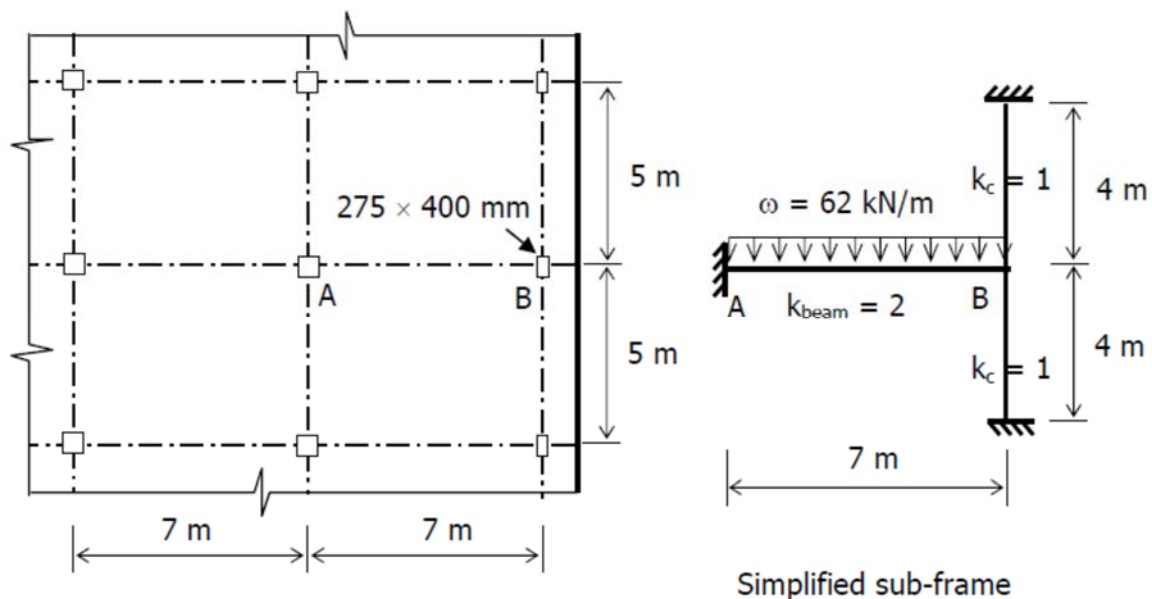

Figure Q2
Figure Q2 shows part of a concrete floor supported by columns. The building is braced in two orthogonal directions. The clear storey height is 4 m and the effective length factor is 0.85. The interior column at A carries an ultimate axial load of 3200 kN from the beams which are symmetrically arranged. The exterior column at B carries an ultimate axial load of 1700 kN and a moment M , transmitted from the beam spanning between AB. Use $f_{cu} = 35 \text{ N/mm}^2$, $f_y = 460 \text{ N/mm}^2$. Assume a 60 mm cover to the centroid of longitudinal reinforcement.
- (b) Determine the design moment in column B from the simplified sub-frame in Figure Q2. The beam stiffness is 2 times of the column members. The ultimate design load on beam AB is 62 kN/m. Design the reinforcement and show the arrangement of bars and links on a sketch of the section.